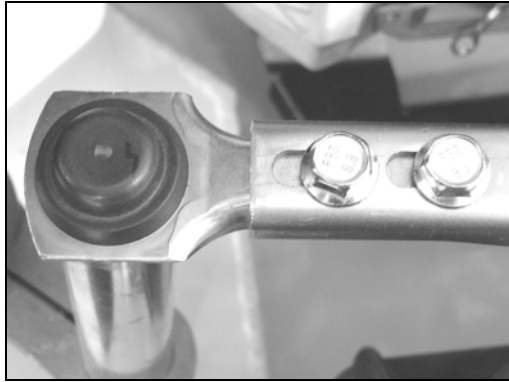

Fig. 85
- Tighten the left side to the minimum length (Fig. 85)